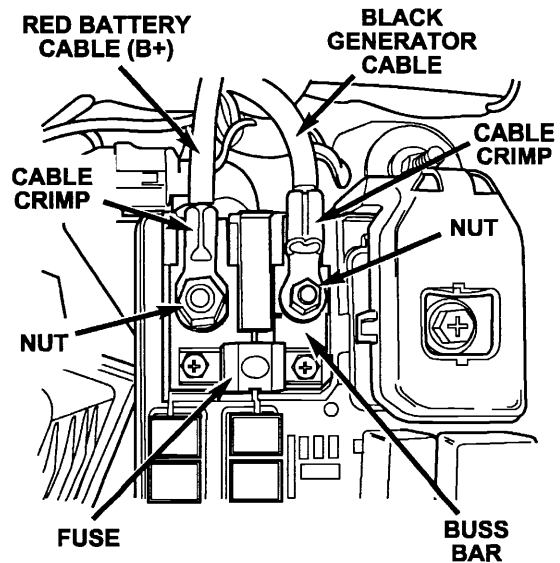

Figure 3 – Top View
5. Inspect the black generator cable and red battery cable (B+) terminals. They both must be oriented so that the cable crimp openings are facing upward, away from the PDC housing (Figure 3). If either (or both) of the terminals are installed with the crimp opening facing downward, remove the retaining nut, lift the terminal off of the stud and reinstall the cable terminal(s) onto the stud with the crimp facing up as shown in Figure 3.
4. Remove the fuse (Figure 3). Save the fuse for reinstallation.
10. With the terminal crimp opening facing upward, away from the PDC housing, place the generator cable terminal over the stud and install the retaining nut (Figure 3).
12. Verify that the red battery cable (B+) terminal crimp opening is facing upward (Figure 3). Remove the retaining nut and reposition the cable terminal if required. Verify that the retaining nut is tight by torquing the retaining nut to 80 in. lbs. (9 N·m).